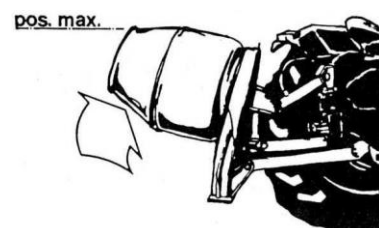

Fig 5
6. Once the hydraulic hose is connected to the tractor tilt the mixer using the hydraulic controls until you active the highest position (*load position*) (fig. 5).